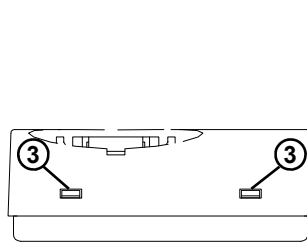

Fig. 2
1. First remove the dial by inserting a small screwdriver in the slot (2) and lifting the dial off carefully.
2. Remove the front cover by disengaging the two plastic teeth on the right hand side of the case as shown in Figs. 2 & 3.